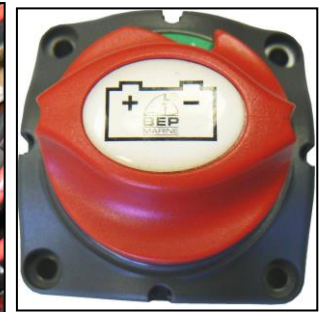

Figure 8-12
3. See Figure 8-12. With the switch in the ON (green) position, the top of the switch shows the cable connections. The + side receives the battery pack cable and the – side connects to the fuse block.